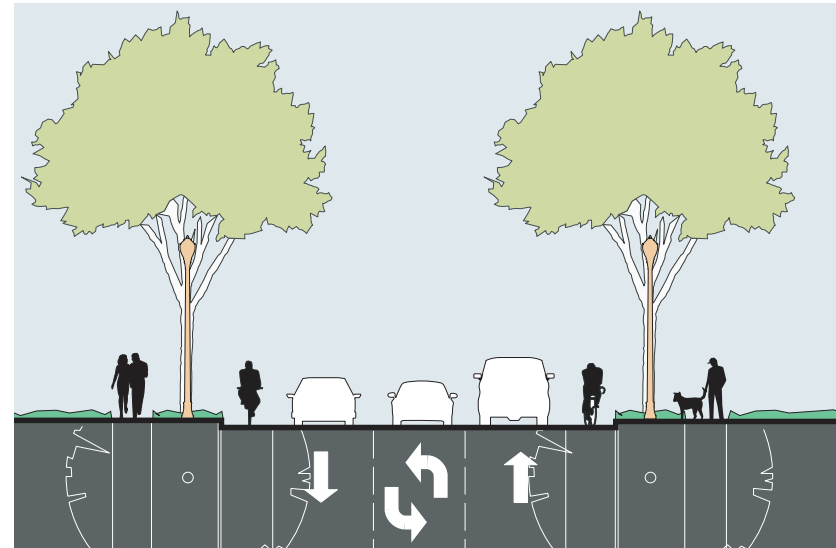

Figure 12:
- The segment of the roadway between Berkman Drive and Old Manor Road should be re-stripped within the existing curbs as a three-lane roadway with continuous curbside bike lanes; and a continuous tree-lined sidewalk or trail on each side of the street (Figure 12). (Note: For continuity, it is assumed that the City will extend this striping eastward to Manor Road).